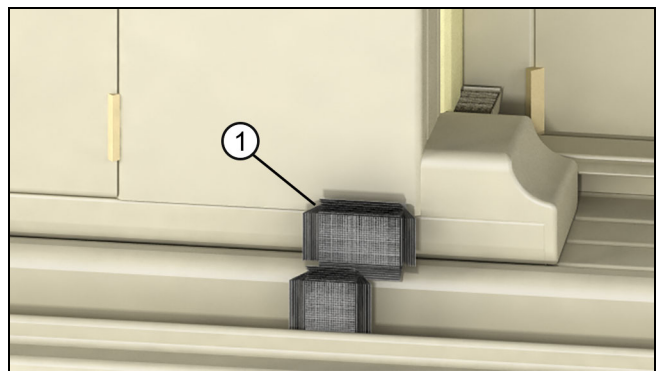

Figure 3
3. Place a dust block horizontally attaching it to the leveling block above the two vertical end cap dust block. See Figure 3.